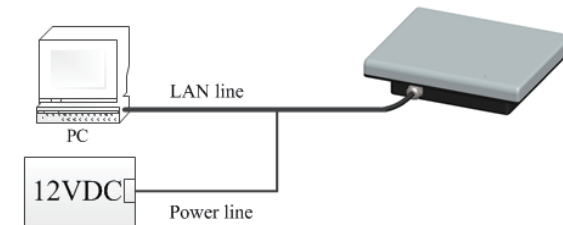

Fig.3-2
- ② Connect PC and SMWR02A/SMWR03A radar sensor as shown in figure3-2: